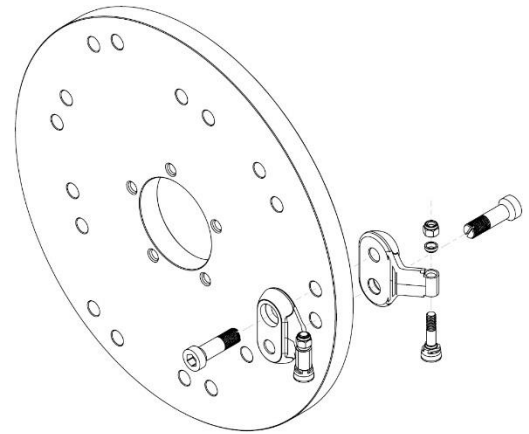

Figure 1.1
6. Slide the **LoPro™** bolts through the empty holes in the wheel and thread them into the adjacent pocket's threaded holes. For now, firm up the **LoPro™** bolts until pockets are seated. (Figure 1.1)